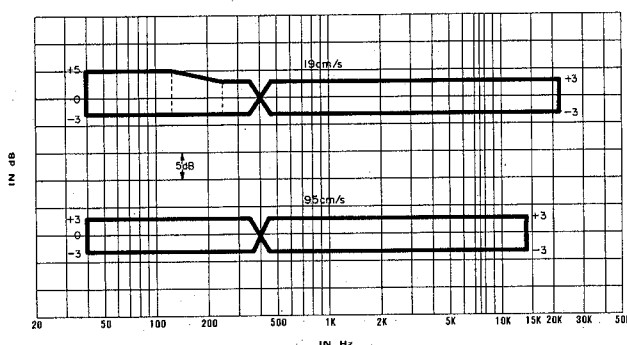

Fig. 11-4 Frequency Response Limits (Playback)
3. Compare the readings obtained on the Test-Set with the Response Limits given in Fig. 11-4.